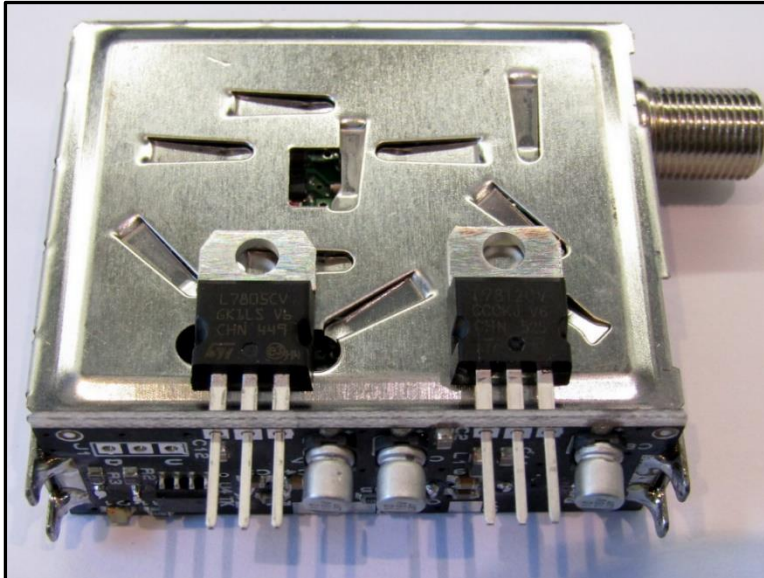

Figure 10: Voltage regulator position.
7. Lie the can flat and insert the voltage regulators in to the PCB as shown in figure 10. The 7805 regulator is fitted to the LEFT and the 7812 to the RIGHT.